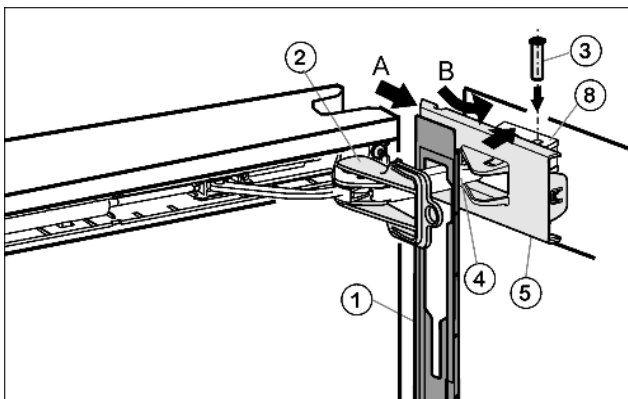

Fig. 16
- ▶ Attach the faceplate *Fig. 16 (1)* to the soft stop bracket *Fig. 16 (4)* so that the catches face inwards and the front faces the appliance.
- ▶ Slide on the cover *Fig. 16 (5)* from the outside (A) and swivel it over the bearing part *Fig. 16 (8)* (B).
- ▶ Attach the cover *Fig. 16 (5)* and engage it as far as the first detent.
- ▶ Draw the soft stop bracket *Fig. 16 (4)* towards the bearing part and insert the pin *Fig. 16 (3)* from above so that the square sits in the recess.
- ▶ Now completely snap the cover *Fig. 16 (5)* onto the bearing part *Fig. 16 (8)*.
- ▶ Twist the safety lock *Fig. 16 (2)* for removal.
- ▶ Slide the faceplate *Fig. 16 (1)* onto the door and snap it into place.